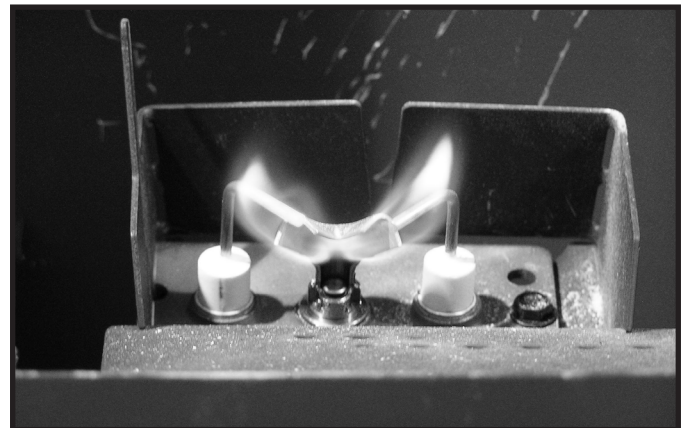

Figure 4.8 IPI Pilot Flame Patterns
- Inspect pilot flame pattern and strength. See Figure 4.8 for proper pilot flame pattern. Clean or replace orifice spud as necessary.